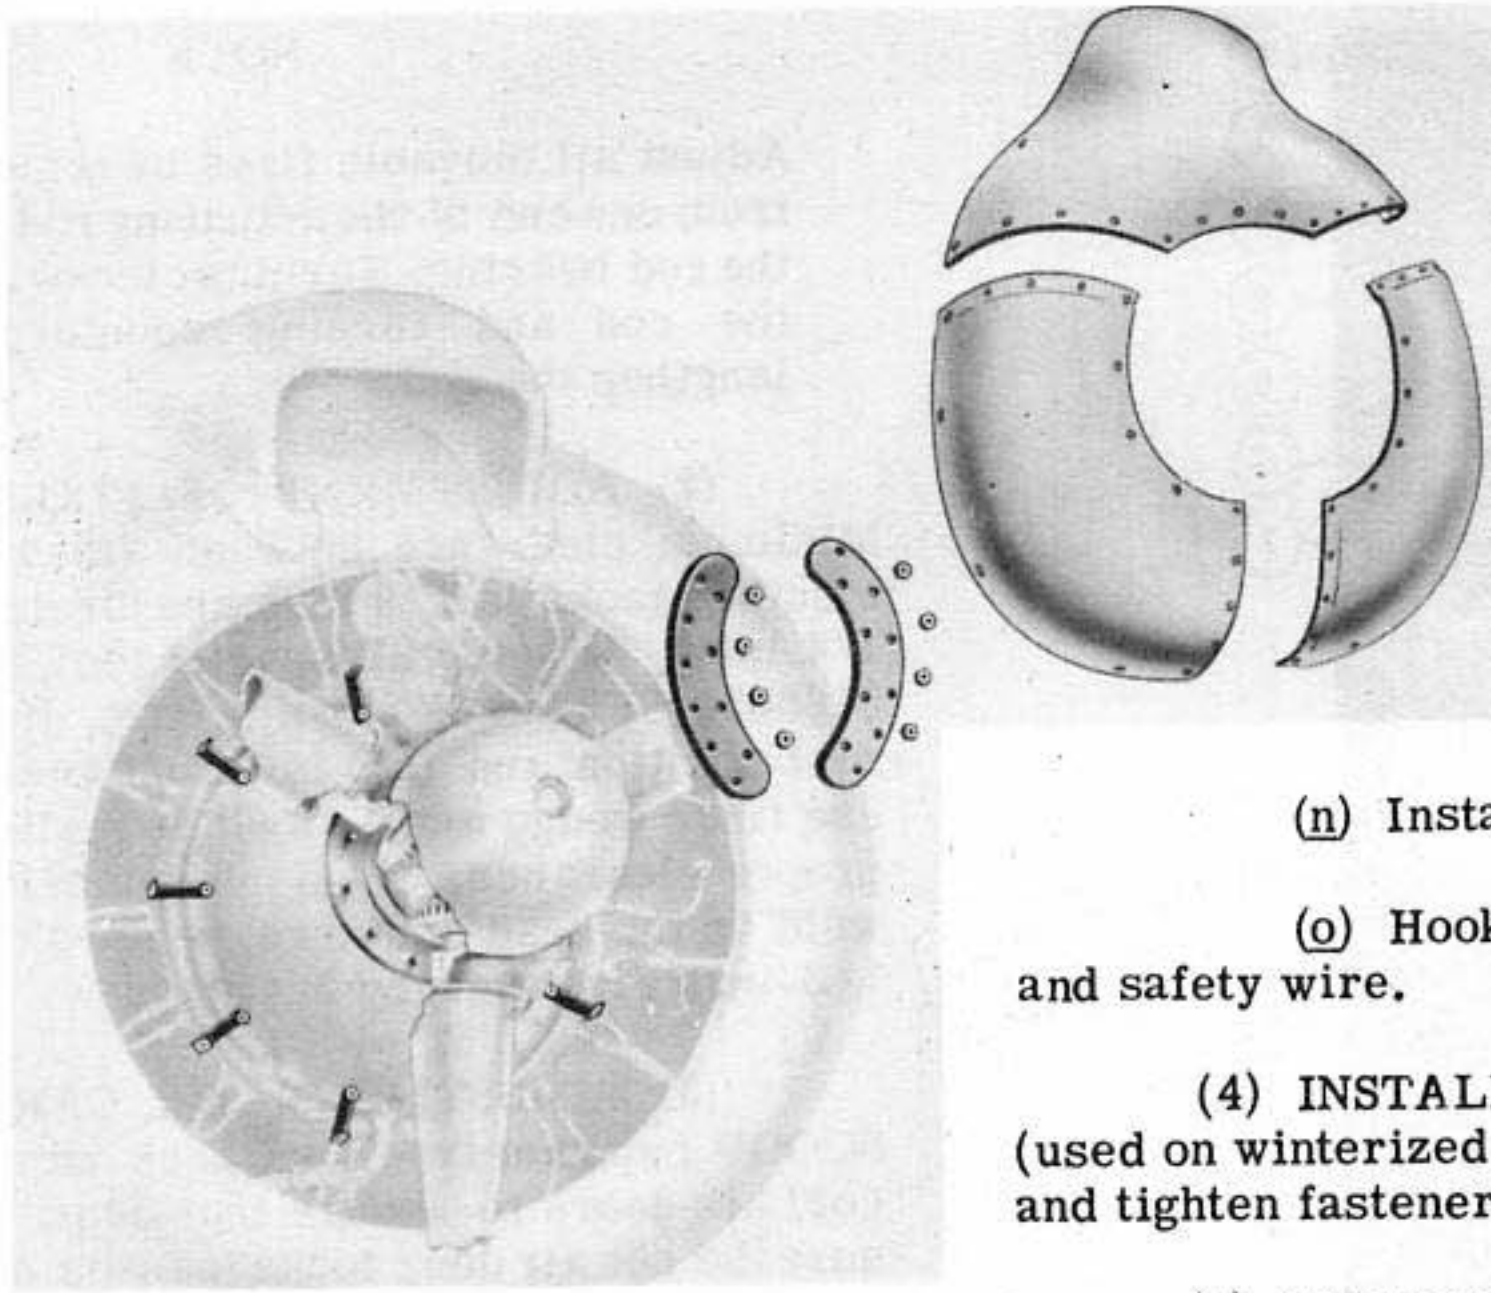

Figure 57
(7) **DISHPAN COVER.** (See figure 57.) - The alclad dishpan cover slips over the propeller shaft and covers the engine block and propeller governor, cutting
(4) INSTALLATION OF DISHPAN COVER (used on winterized airplanes only). - Place cover ON and tighten fasteners. (See figure 57.)